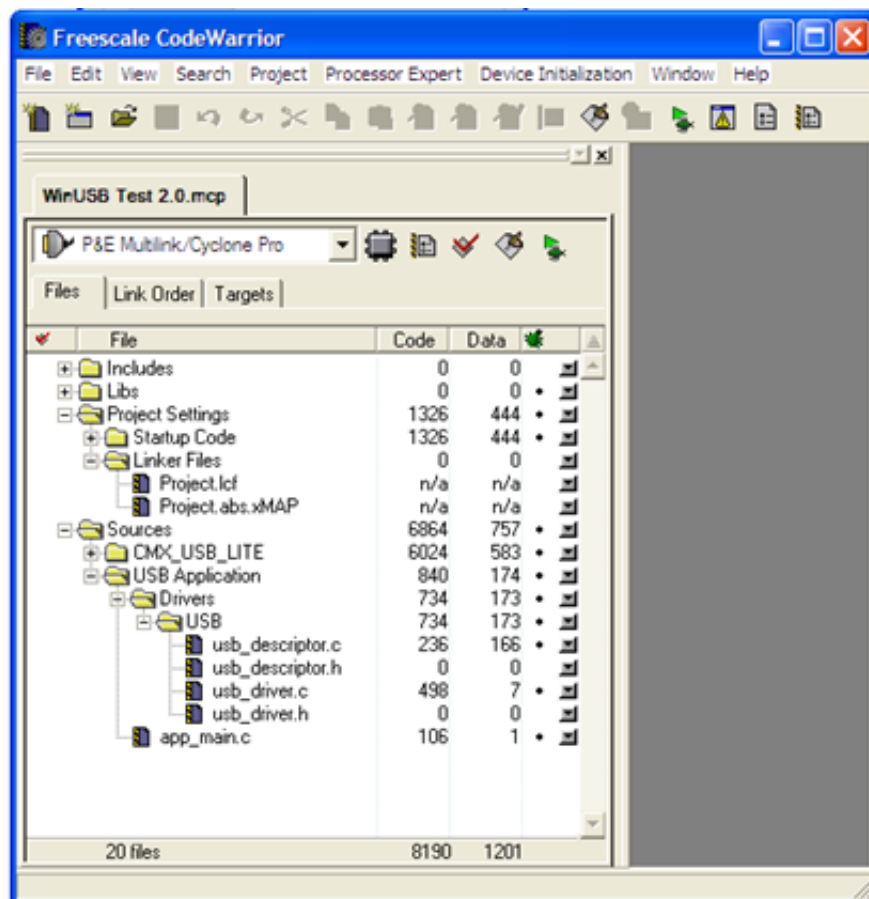

Figure 2. WinUSB Test using CodeWarrior
6. Open MCP file using CodeWarrior v6.3 (Classic Edition) located in C:\CMXUSB_LITE_V1\WinUSB Test 2.0\WinUSB Test 2.0.mcp as shown in Figure 2.